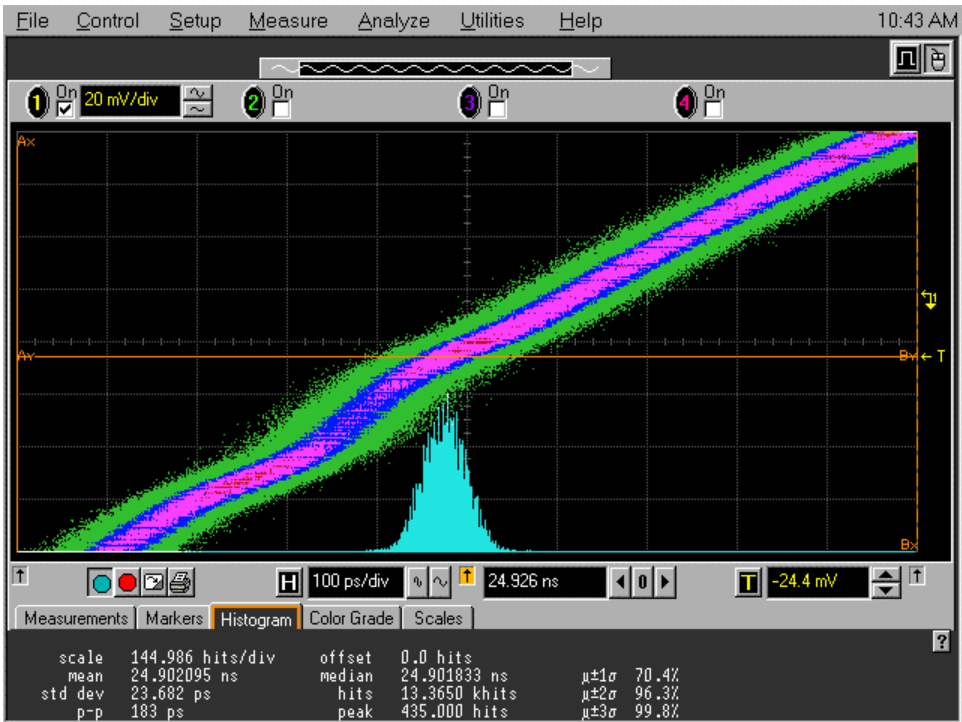
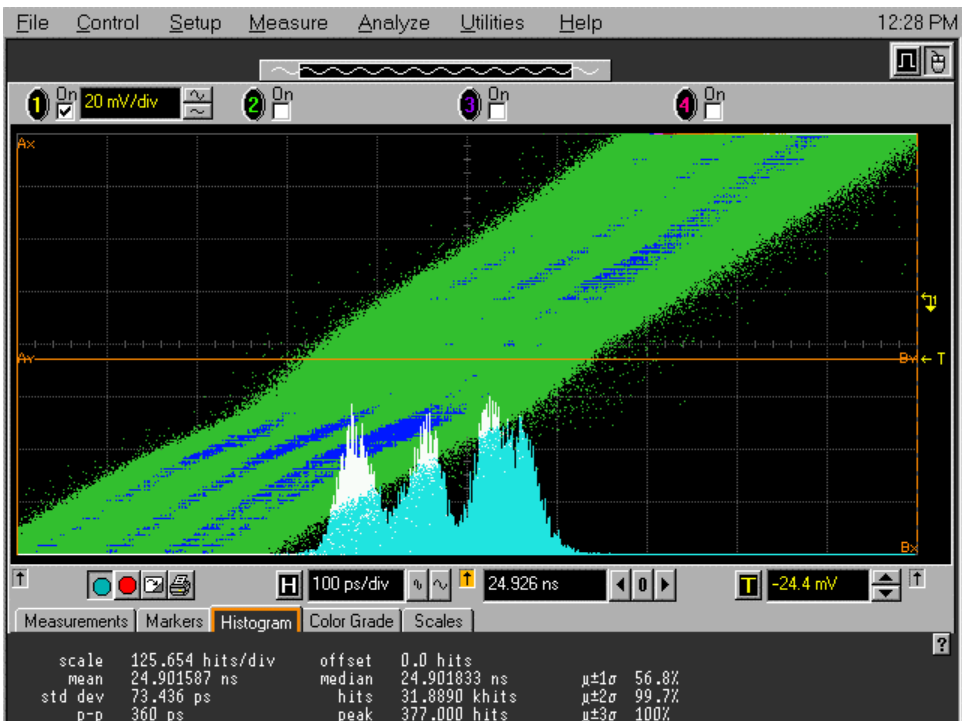

Figure 1: Clock40Des1 jitter, new mezzanine card, +5.0V power
Figure 2: Clock40Des1 jitter, old mezzanine card, +5.0V power
Peak-to-peak jitter measurements at points 1-2 were done using an HP Infinium Oscilloscope (1.5 GHz, 8GSa/s) in Histogram mode at 25 ns after trigger. Results are summarized in Table 1. Two pictures are shown on Figures 1 and 2.
3. Jitter distribution for the latest TTCrx ASIC (ver.3.1) is close to gaussian (Fig.1). Jitter distribution for the previous version of ASIC looks differently (Fig. 2, note several peaks).